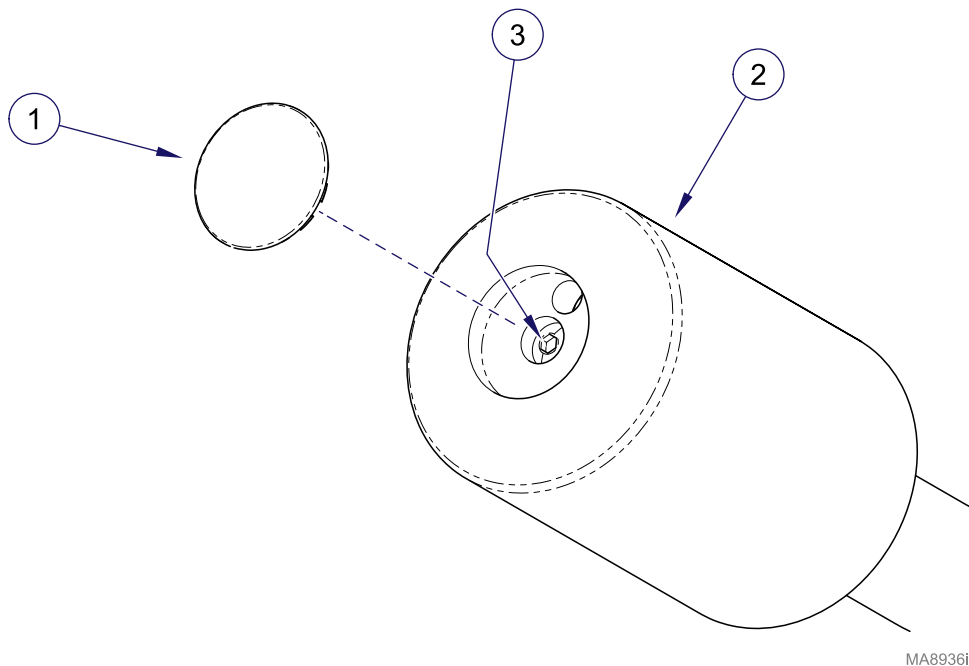

Figure 12. Cross Tube Counterbalance Adjustment
1. Install housing cap (2, Figure 12) on ballast housing (3) and secure with screw (1).
1. Remove housing cap (1, Figure 12) from ballast housing (2).